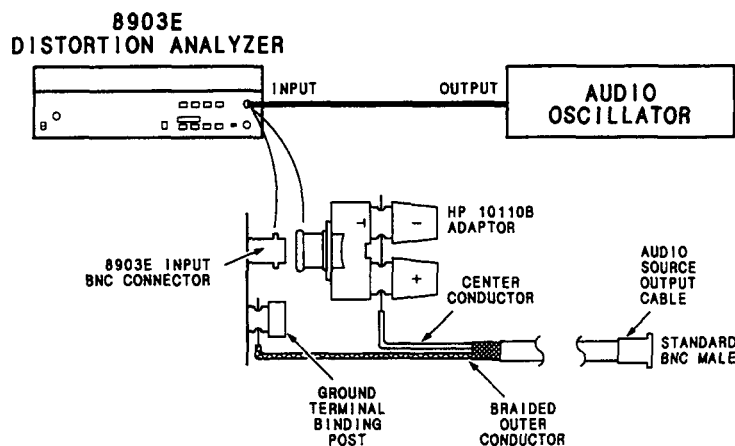

Figure 4-5. Common-Mode Rejection Ratio Test Setup
3. Connect the equipment as shown in Figure 4-5. Note the use of the dual-banana-to-BNC adapters to tie the inner and outer conductors of the input connector together.